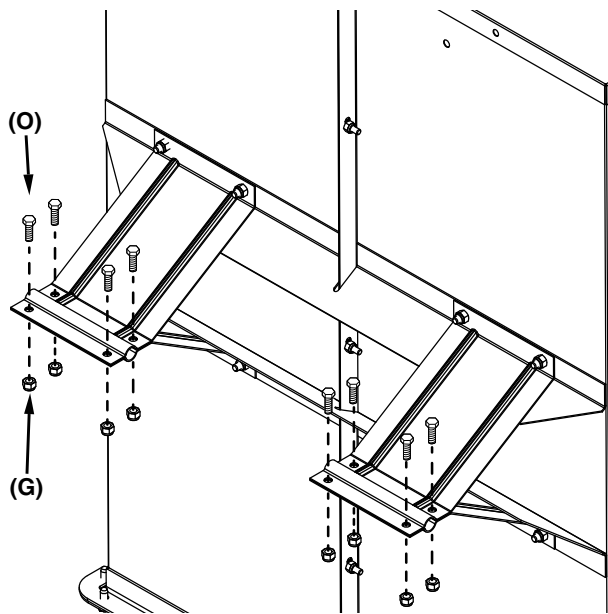

Figure 10
STEP 11 (SEE FIGURE 10): Secure the wheel supports using eight 5/16" x 3/4" hex bolts (O) and 5/16" nylock nuts (G). **Do Not Tighten!**